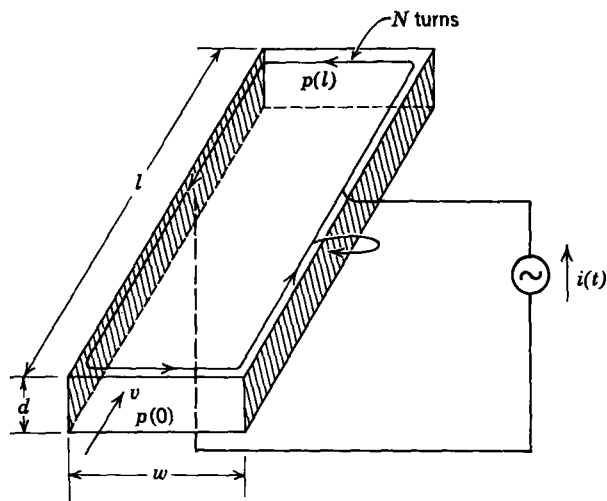

Fig. 12P.26
12.27. A pair of magneto-hydrodynamic conduction generators is shown in Fig. 12P.27. In each generator a conducting fluid flows through a channel of width w and height a with approximately uniform constant velocity V . A magnetic field is applied to each generator by means of a magnetic circuit that produces (approximately) a uniform magnetic field in the vertical direction. The magnetic circuits can be considered as having infinite permeability with all the drop in mmf across the channels. Currents are passed through the channels by means of highly conducting electrodes of height a and length b , as shown in Fig. 12P.27. The current i_1 (amperes) through the left generator is used to produce a magnetic field in the left generator and in the right generator, as shown, and to deliver power to the load R_L . The current i_2 through the right generator follows a similar path, except that the turns N and N_m have different directions. We wish to establish the dynamics that would be expected for two generators interconnected in this way, with the objective of producing ac rather than dc power delivered to the loads R_L .